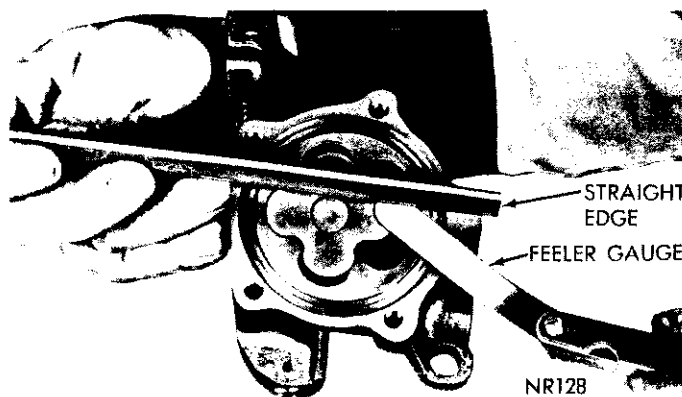

Fig. 56—Measuring Clearance Over Rotors
(8) Place a straightedge across face between bolt holes (Fig. 56). If a feeler gauge of more than .004